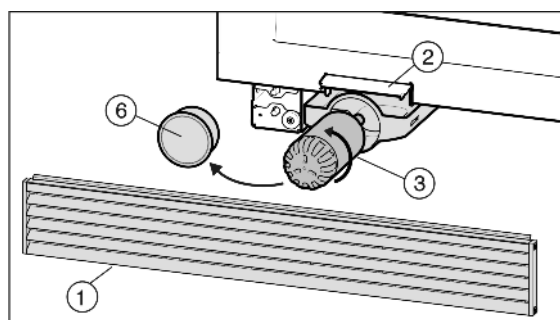

Fig. 6
- ▶ lift the ventilation grid *Fig. 6 (1)* up and pull out.
- ▶ Open the filter change flap *Fig. 6 (2)*.
- ▶ Pull the water filter carriage *Fig. 6 (3)* out.
- ▶ Remove the filter cover *Fig. 6 (6)*.
- ▶ Turn the water filter *Fig. 6 (3)* about 100° anti-clockwise and pull out.